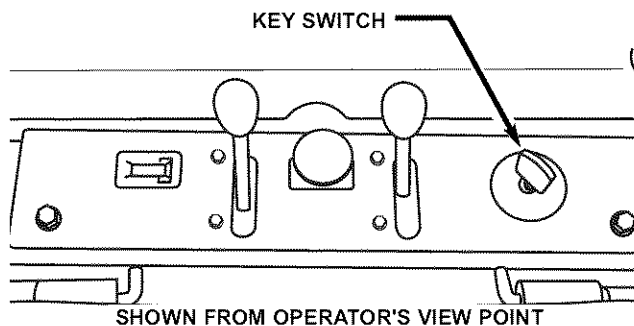

FIGURE 3.6
1. Stop engine by turning key to "STOP" position. Move engine speed to the Turtle "SLOW" position and turn key to "STOP". See Figure 3.6.